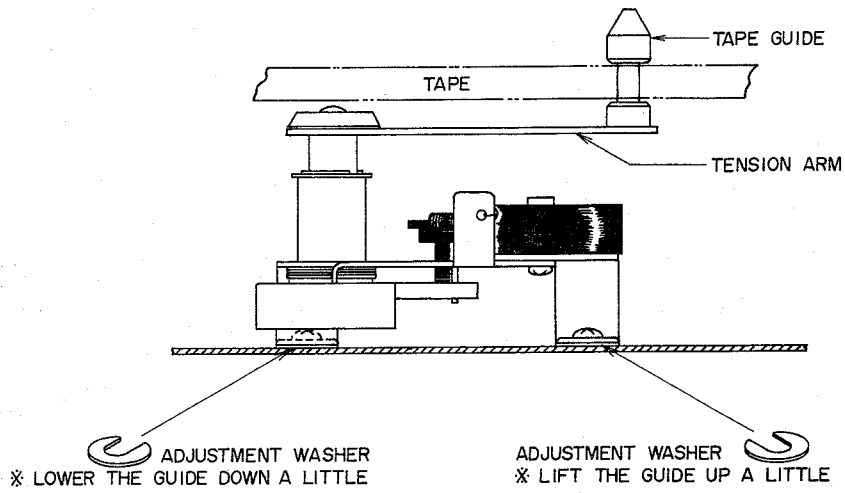

Fig. 22
1. TAPE GUIDE HEIGHT ADJUSTMENT (Refer to Figs. 22, 23)
Adjust tape guide height so that the tape does not curl between the tape guide and guides on head base. As left and right tape guide height adjustment methods are different, be sure to refer to Figs. 22 and 23.